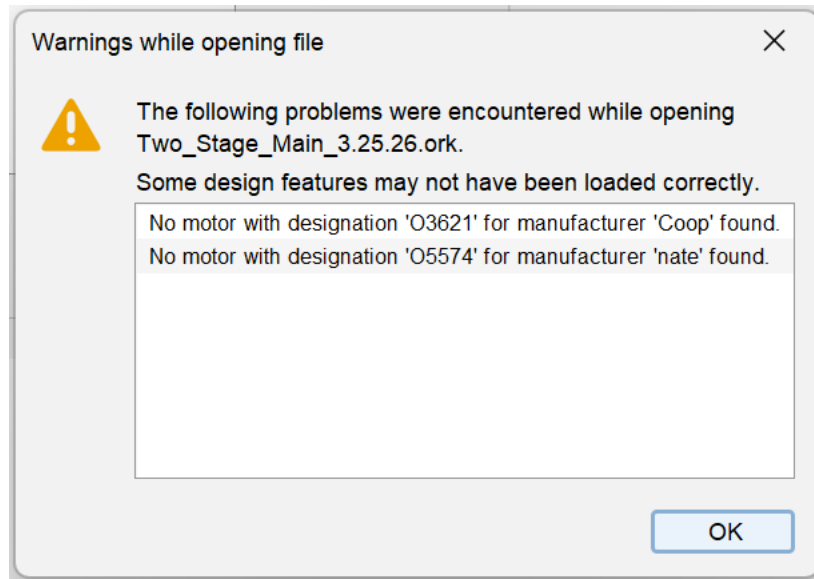
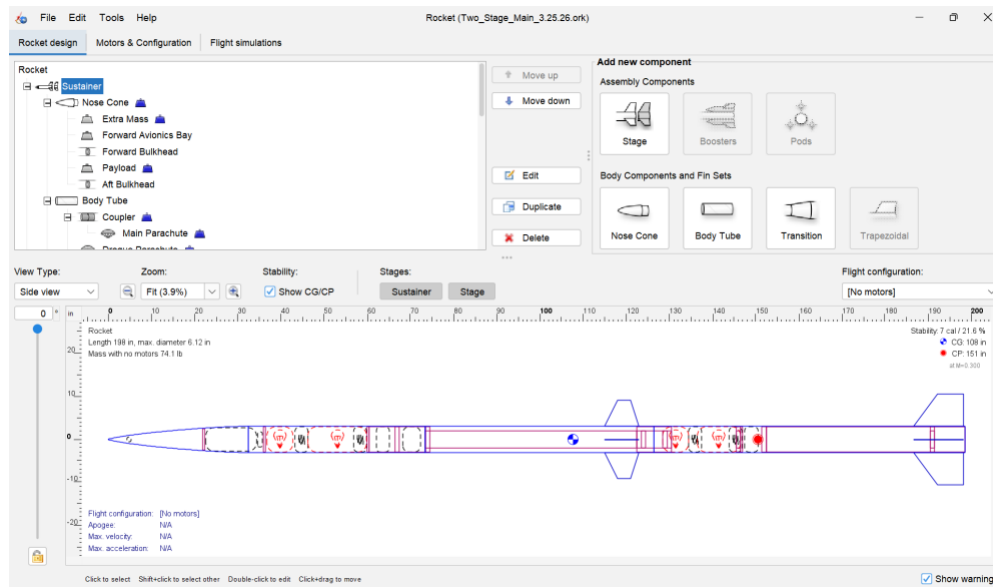

Figure 1: Warnings that may appear when opening an ork file.
Figure 2: A successfully loaded ork file in OpenRocket.
1. Launch OpenRocket, then open the ork you want to run sims with by clicking [File] → [Open...]. After selecting the correct ork file, warnings may appear similar to what is shown below in Figure 1. If warnings appear, select [OK]. Your screen should look similar to what is shown below in Figure 2 if everything was done correctly.